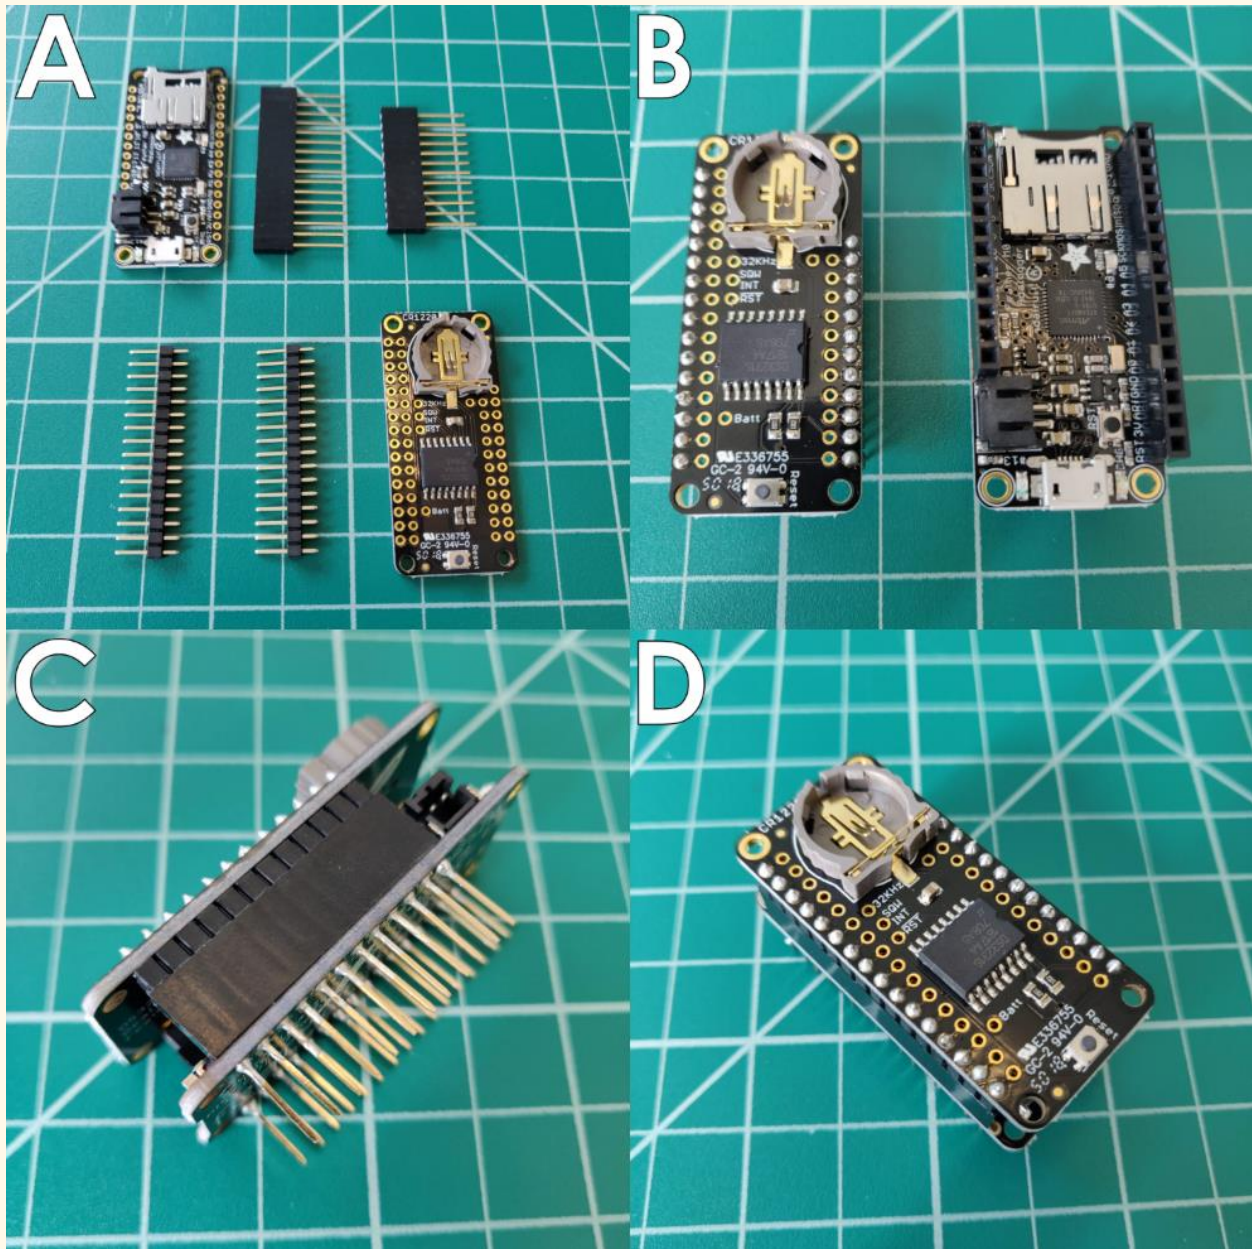

Figure 9. Adalogger and Real-time Clock with associated headers (A); after soldering (B); connected in profile (C); connected from above (D).
1. Reference Figure 9 and the photo and pinout guide below. Place Atlas EZO circuit and connect jumper wires in accordance.